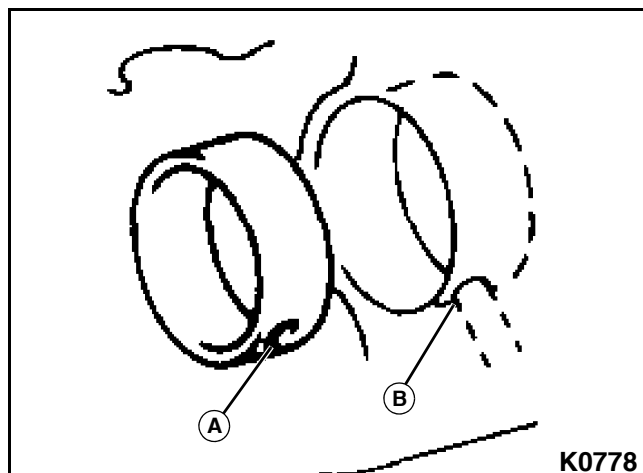

Figure 3-175
1. Align oil holes of the cylinder block (B) and camshaft bearings (A). **See Figure 3-175.**